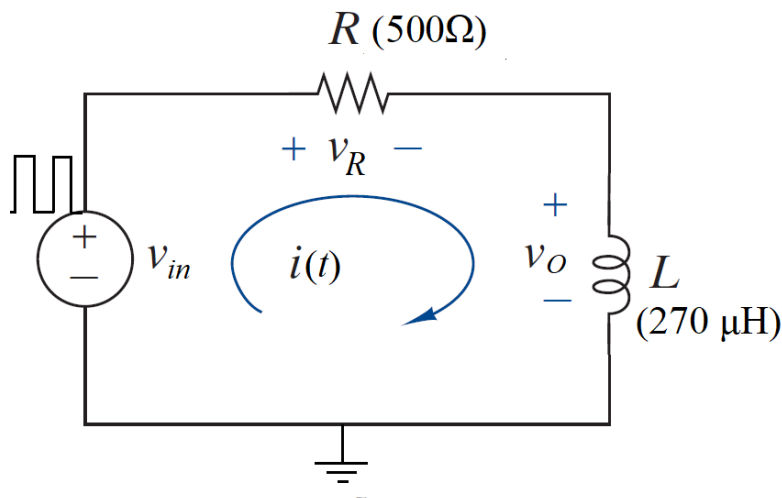

Figure 1: A series RL circuit
2. Patch the circuit given in Fig. 1 on the breadboard and apply pulse train to it.
Q1: What would be the effect on v_0 and v_R , if the resistance value is halved in Fig. 1?
Q2: What would be the effect on v_0 and v_R , if the inductor value halved in Fig. 1?